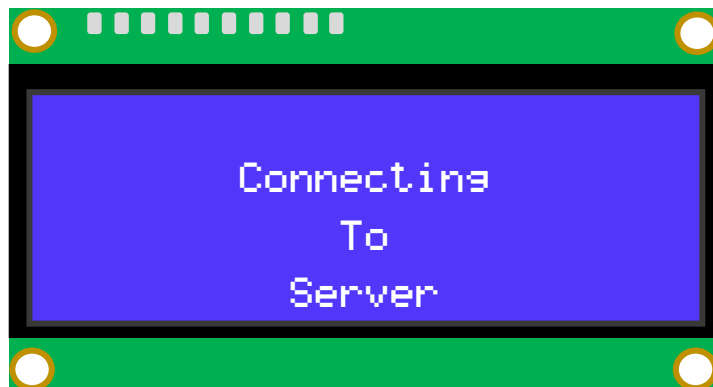

Figure 9 Loss of Internet Connection.
2. In the case of a server failure or loss of internet connection, the display will show the status "Connecting to server." (*Figure 9*)